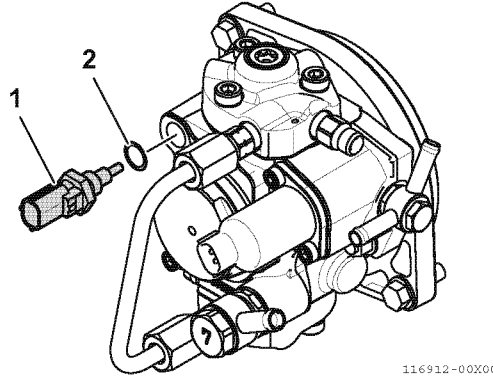

Fig.50-33
- 1 - Install the fuel temperature sensor (1, Fig.50-33) and O-ring (2, Fig.50-33) to the fuel temperature sensor mounting part on the supply pump.